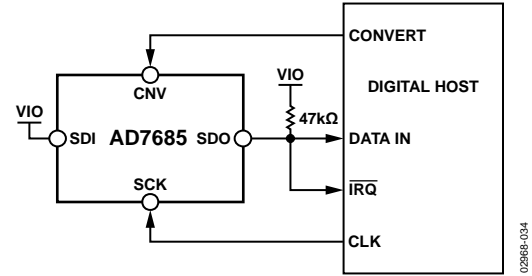
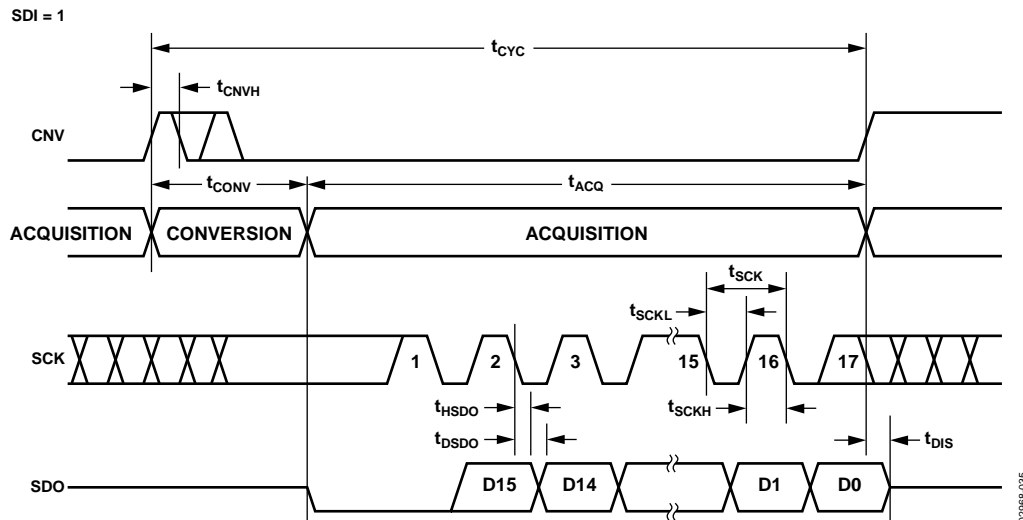
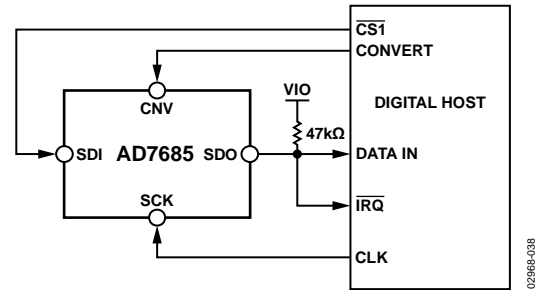
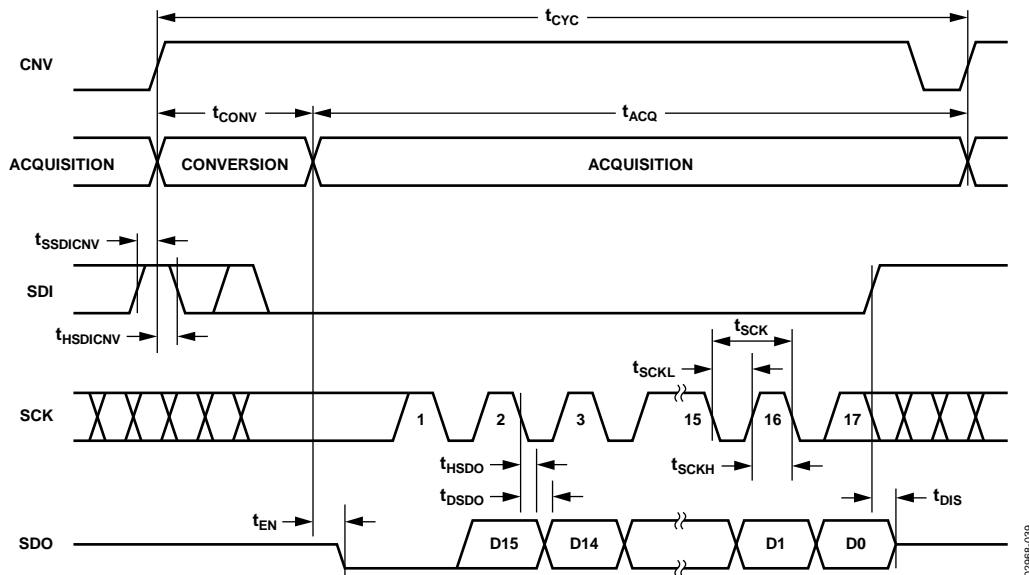

Figure 36. \overline{CS} Mode 3-Wire with BUSY Indicator Connection Diagram (SDI High)
Figure 37. \overline{CS} Mode 3-Wire with BUSY Indicator Serial Interface Timing (SDI High)
Figure 40. CS Mode 4-Wire with BUSY Indicator Connection Diagram
Figure 41. CS Mode 4-Wire with BUSY Indicator Serial Interface Timing
- In the \overline{CS} mode, if CNV or SDI is low when the ADC conversion ends (see Figure 37 and Figure 41).
The connection diagram is shown in Figure 36, and the corresponding timing is given in Figure 37.
The connection diagram is shown in Figure 40, and the corresponding timing is given in Figure 41.